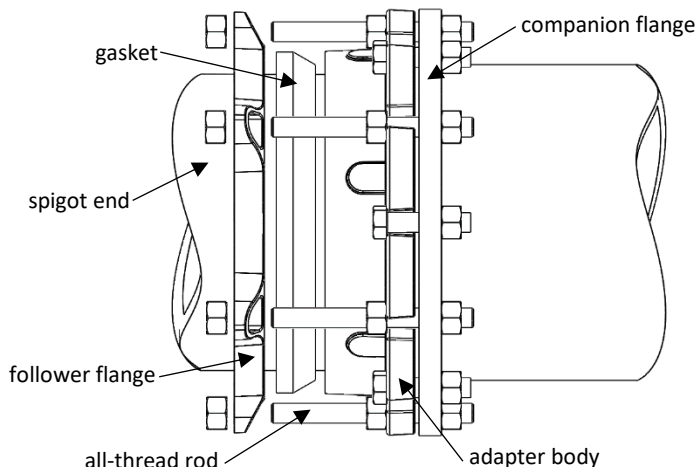

Figure 1: 912-90 FCA
1. For 912-90 models (Figure 1) install all-thread rods through the remaining holes on the adapter body/companion flange assembly. Leave enough all-thread to attach the follower flange.